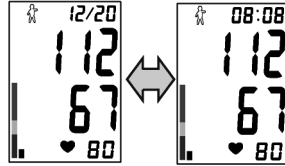

Fig. 13
- Press button 'M1' or button 'M2' to record the reading in corresponding memory. For example, if button 'M2' is pressed, the display will show as Fig.13. If the user does not press button, the reading won't be recorded;